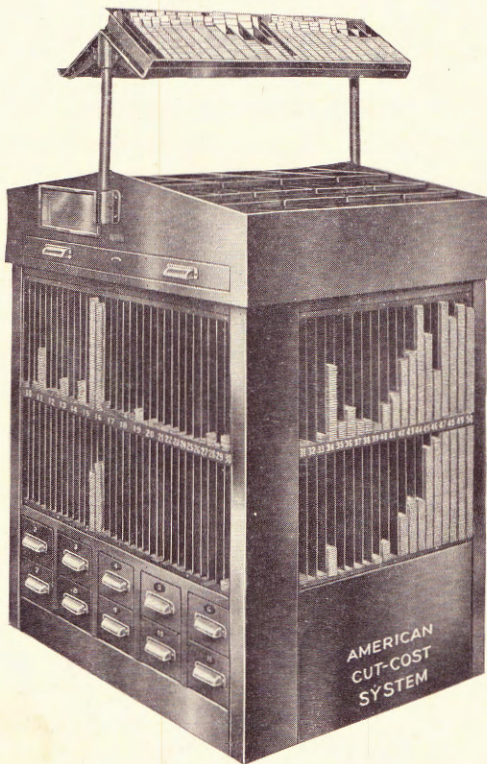

Fig. 47—Cost-Cut Justifying Materials Cabinet. Note bank for short length leads on top. For specifications see foot of next page.
L. S. Leads and Slugs. More than 3700 lbs.: 1465 lbs., 4 to 50 picas long, in bank and racks (see fig. 47, page 1038), and 1470 lbs. of extra supplies of most used lengths in 6 drawers (fig. 43). Ten drawers (fig. 46) under lead rack may also be used for L. S. leads or slugs, capacity 800 lbs., making maximum capacity of both cabinets over 3700 lbs.